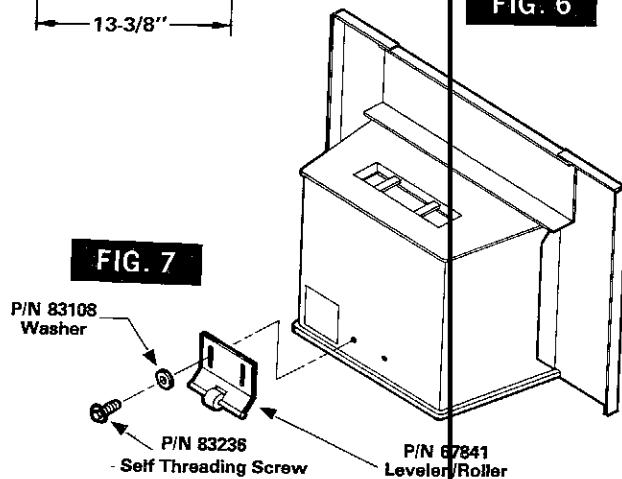

FIG. 7
2. Using an adjustable or 3/8" wrench, secure the leveler/roller with the self threading screws and washers provided. See Fig. 7.